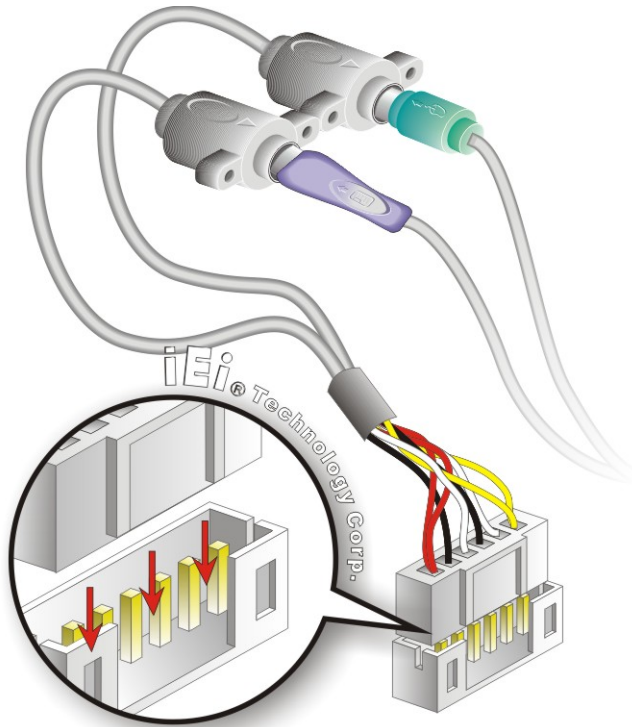

Figure 4-15: Keyboard/mouse Y-cable Connection
- Step 2: Align the connectors.** Correctly align pin 1 on the cable connector with pin 1 on the WAFER-945GSELVDS2 keyboard/mouse connector. See **Figure 4-15**.
Step 3: **Insert the cable connectors** Once the cable connector is properly aligned with the keyboard/mouse connector on the WAFER-945GSELVDS2, connect the cable connector to the on-board connectors. See **Figure 4-15**.